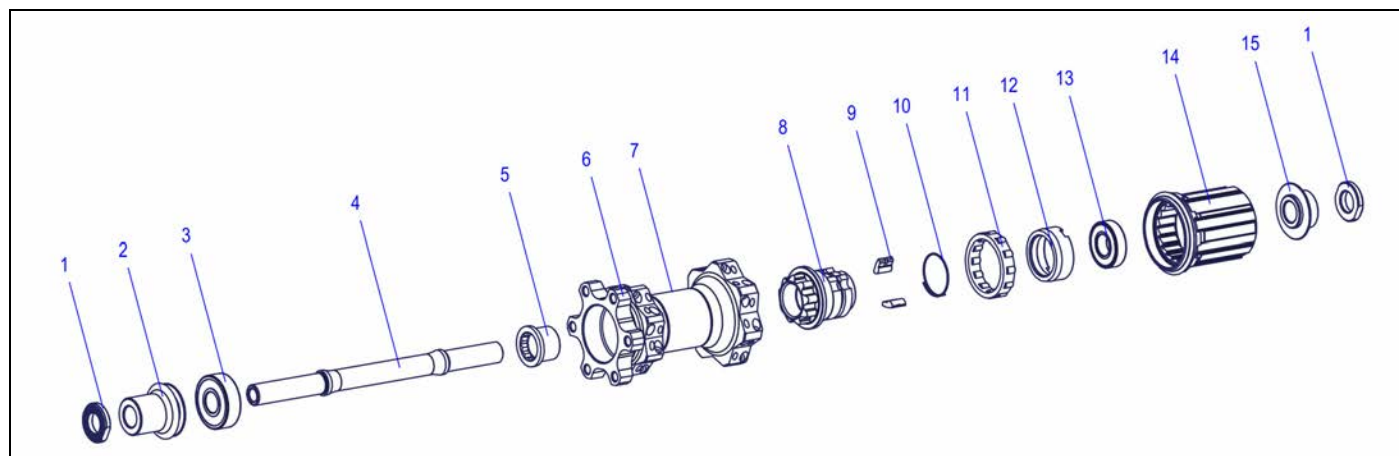

figure 3.3: Overview Two Pawl System
2. Unscrew the knurled disc (fig.3.3/1) on the rotor side using a 17 mm wrench.
3. Remove the knurled disc (fig.3.3/1) and the adapter (fig.3.3/15).
4. Carefully slide the rotor (fig.3.3/14) off the hub.
- 6. Unscrew the knurled disc (fig.3.3/1) using a 17 mm wrench.
- 7. Remove the knurled disc (fig.3.3/1) and the adapter (fig.3.3/15).
1. Push the spring (fig.3.3/10) out of the groove using a flat screwdriver.
2. Slide the spring (fig.3.3/10) upwards and remove it.
3. Remove both pawls (fig.3.3/9).
4. Slide the needle cage (fig.3.3/11) upwards and remove it.
1. Dismount the bearing (fig.3.3/3) opposite to the drive side by hitting the axle (fig.3.3/4) with a nylon hammer.
2. Remove the bearing (fig.3.3/3) from the axle (fig.3.3/4).
3. Slide the axle (fig.3.3/4) through the bearing (fig.3.3/13) on the drive side.
5. Remove the bearing (fig.3.3/13) from the axle (fig.3.3/4).
The pawl (fig.3.3/5) carrier and the bearing shell (fig.3.3/12) must only be dismounted, if they are damaged!
2. Put the axle (fig.3.3/4) into the installation tool.
3. Slide the hub shell (fig.3.3/6) onto the installation tool and the axle.
4. Put the wrench for the bearing shell (fig.3.3/12) onto the bearing shell.
5. Unscrew the bearing shell (fig.3.3/12) using a 27 mm wrench.
8. Put the hub body (fig.3.3/6) onto the Allen key.
9. Turn the wheel anti clockwise and loosen the pawl carrier (fig.3.3/5).
- 11.** Remove the pawl carrier (fig.3.3/8) and the screw fitting (fig.3.3/5).
3. Clean the rotor (fig.3.3/14) with a mild cleaner.
7. Remove bad notches from the rotor (fig.3.3/14) using a file.
3. Put the screw fitting (fig.3.3/5) onto the Allen key.
4. Put the hub shell (fig.3.3/6) onto the screw fitting.
5. Put the pawl carrier (fig.3.3/8) into the hub shell (fig.3.3/6).
- 9. Put the long side of the axle (fig.3.3/4) into the installation tool.
- 11. Screw the bearing shell (fig.3.3/12) onto the pawl carrier (fig.3.3/8) by hand.
- 12. Put the wrench for the bearing shell onto the bearing shell (fig.3.3/12).
1. Put a new bearing (fig.3.3/13) with its colored side outwards onto the bearing shell (fig.3.3/12).